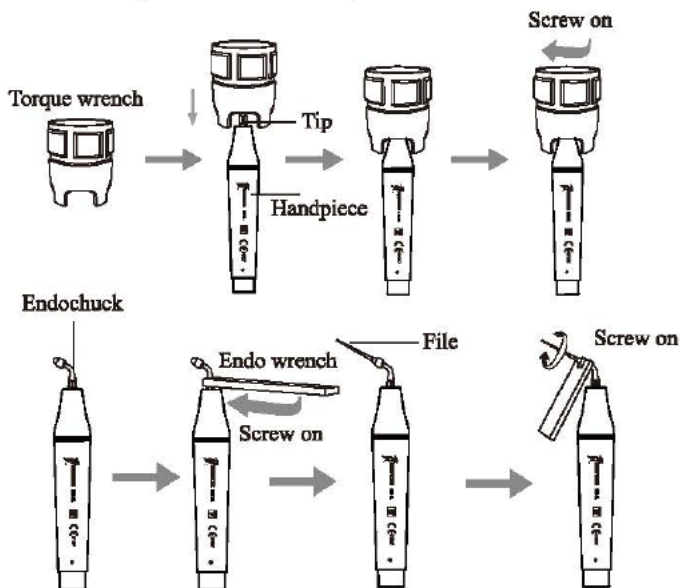

Figure 6
i) Select a suitable scaling tip as you need, screw it on the handpiece tightly by the torque wrench (See Figure 6).
2.1.3 Instruction of torque wrench (See Figure 6)
- ① Take the scaling tip into the torque wrench, operate as showed in figure 6.
- ② Tip installation: Hold the handpiece, turn the tip toward direction as showed in figure 6 with the torque wrench. Turn one more circles when the tip stops, then the tip is installed.
- ③ Tip uninstallation: Hold the handpiece, turn the wrench toward anti-clockwise direction.
- ④ Sterilize it in sterilizer after each treatment.
- ⑤ The torque wrench must be cooled naturally after sterilization to avoid scald when using next time.
- ⑥ Keep the torque wrench in a cool, dry and ventilated place and keep it clean.
- a) Fix endochuck to handpiece by endo wrench (See Figure 6).